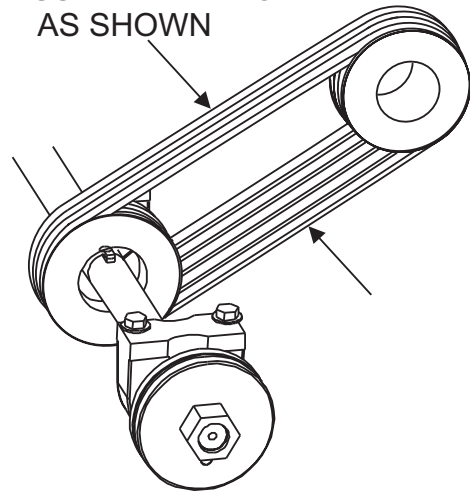

Figure 31. V-Belt Adjustment/Tension
1. Tighten down the engine mount **carriage bolt** (page 48, item 4,) and monitor the tension on the belts.
2. Determine the proper tension (Figure 31) by using a tensionmeter against the inside belts at mid point between the two pulleys (6-9 lbs.), or by deflecting the center belts at mid point 3/8" (10 mm) to 1/2" (13 mm).